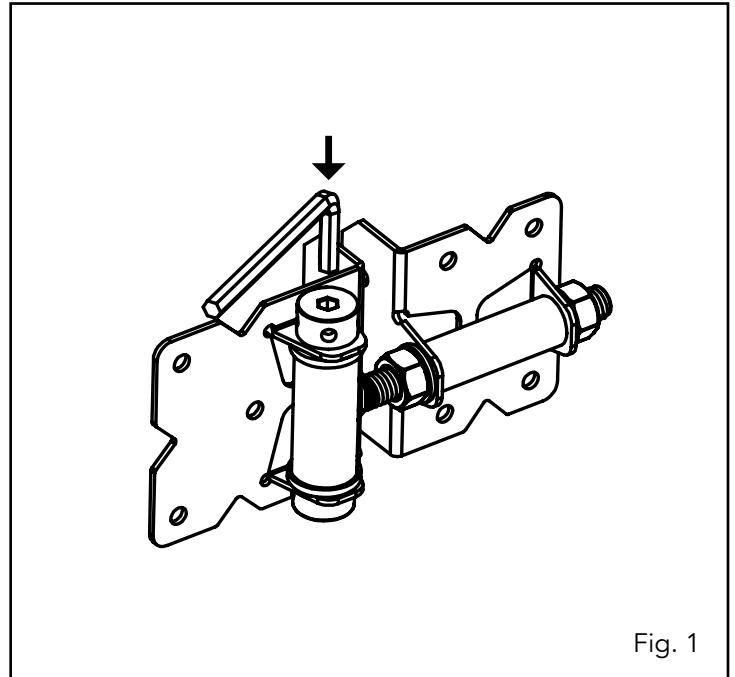

Fig. 1
1. Insert supplied hex wrench into adjustment cam. (Fig. 1)